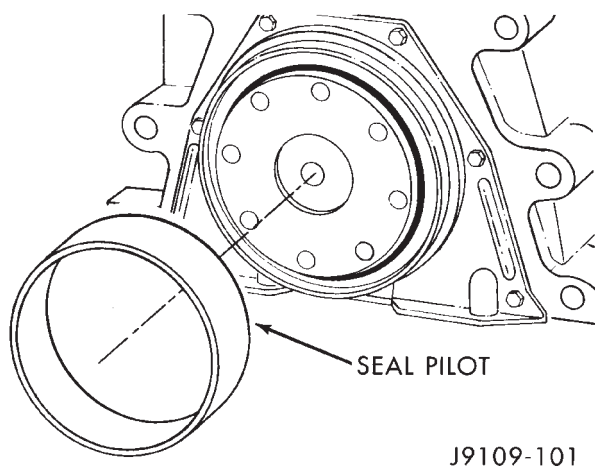

Fig. 96 Crankshaft Rear Seal Pilot
- (5) Install the seal pilot (provided with the replacement kit) onto the crankshaft. Push the seal onto the crankshaft (Fig. 96).
- (6) Remove the seal pilot.